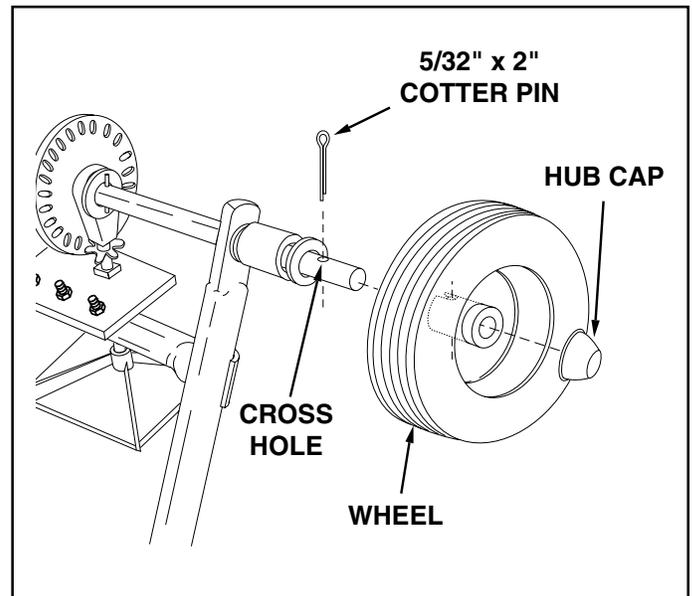

FIGURE 3
5. Place a wheel onto the end of the axle that has a cross hole. The long end of the hub goes to the inside. See figure 3.
6. Assemble a 5/32" x 2" cotter pin through the notched wheel hub and the axle. See figure 3.
7. Lightly tap a hub cap onto the axle until it is snug against the wheel. See figure 3.
1. If the axle, slotted gear and sprocket assembly is disassembled, mark down the positions of the parts as they are removed. The drive wheel and sprocket positions in relation to the slotted gear determine which direction the spreader plate will spin. Be sure to reassemble them in their original positions. (Refer to figure 3 on page 4.) Use shim washers (Ref. no. 21 on pages 10 and 11) as needed for minimum backlash. Add grease to gear and sprocket.